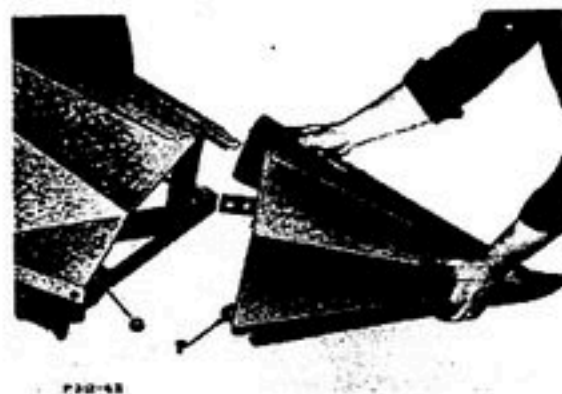

Figure 33
Figs. 33 and 33A-1 Remove cotter pins and drilled rivets from both shoes. Remove bolts, bushing and washers from pivot support assemblies. Position shoe as shown in Fig. 33 and attach in this manner:
1. Position hole in bracket "F" (Fig. 33) over stud "G".